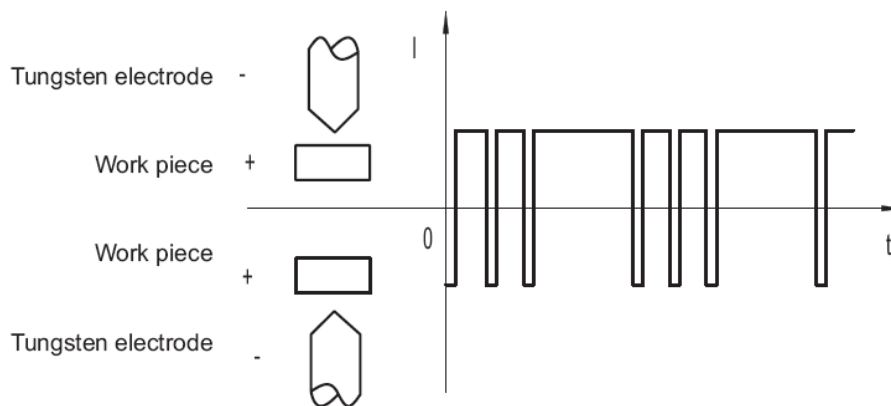

Fig. 5-3-14: Mixture wave
**Mixture wave:** Alternate output AC current and DC current, high Efficiency. (Fig. 5-3-14)